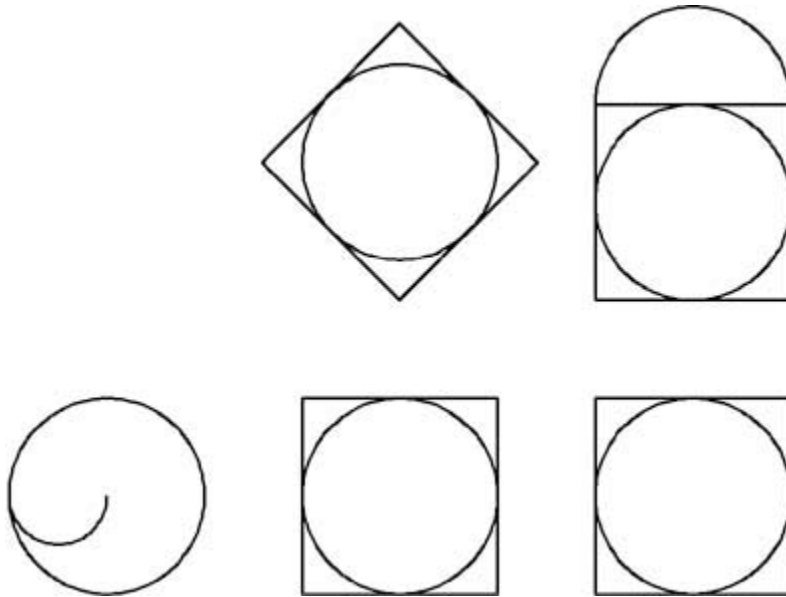

Figure 4-24
- 9** Drag the cursor up and type **180<Enter>**. AutoCAD draws an arc with a 180° included angle from the start point to the endpoint in a counterclockwise direction. Your drawing should look like Figure 4-24.